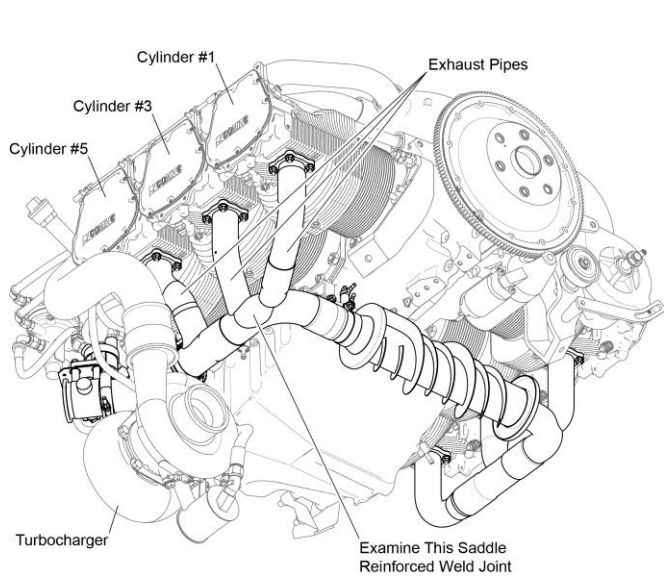

Figure 1
1. Examine the weld joints of the exhaust pipes for all cylinders (Figures 1 and 2). Closely examine the saddle reinforced weld joints (Figures 3 and 4), especially at the #3 cylinder. If any cracks or damage are found, contact Lycoming Engines' Product Support at +1 (877) 839-7878 (Toll Free) or +1 (570) 327-7222.
- Complete a visual inspection on the entire exhaust system (Figures 1 and 2). If any sign of leaks, distortion, or damage is found, contact Lycoming Engines' Product Support.